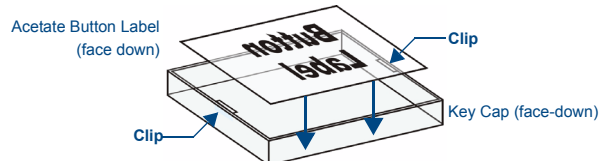

FIG. 10 Placing a Button Label inside a Key Cap
- Place the Key Cap face-down, and insert the Button Label into the bottom of the Key Cap (FIG. 10).
- Orient the Button Label inside the Key Cap so that the two clips are located on the left and right sides of the readable text on the Button Label, as indicated in FIG. 10.
- Be sure to place the Button Label face-down inside the Key Cap (see FIG. 10), otherwise the label will be seen in reverse once the Key Cap is installed.